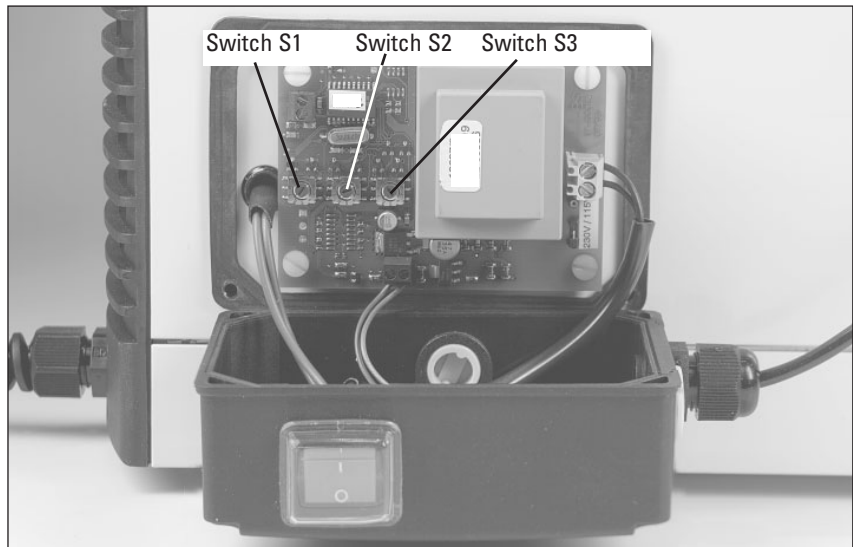

Fig. 5:
- ① Disconnect the pump from the mains by pulling the plug out of the socket.
- ② Check that the pump and the drying system are dead and secure them.
- ③ At the control box, loosen the collar nut of the cable inlet. Use a slotted screwdriver to release the four screws, then fold the cover forwards and lay it down (see fig. 5).
- ④ Set the desired values at switches S1, S2, and S3 (see fig. 5). See Table 1 for an explanation of the switches and for the values which can be set.
- ⑤ Replace the cover on the control box. Take care to ensure that the seal is properly in place. Tighten the four screws of the cover to finger tightness. Then tighten the collar nut of the cable inlet.